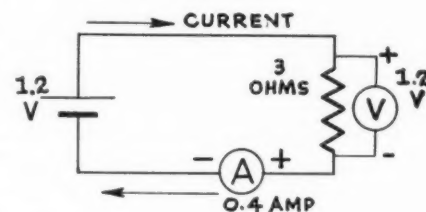

Fig. 42.
also connected. It is important to remember that an ammeter is inserted into the circuit and registers current flow (amperes). A voltmeter is connected across the circuit, where the difference in potential, or drop, is measured in volts. Fig. 42 represents a circuit with the voltmeter (V) and ammeter (A) included. The voltmeter indicates that the cell-voltage, 1.2 volts, is required to send a current of 0.4 ampere through the 3 ohms resistance unit.